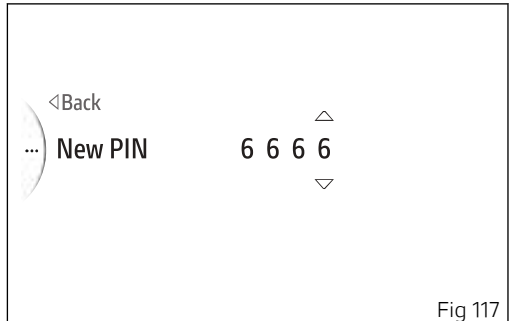

Fig 117
- The 2 arrows above and below the digit indicate that the number can be changed from 0 to 9 using buttons (1) and (2).
- Press ENTER (3) to confirm and move on to the following digit.
- Repeat the procedure until entering all 4 digits (Fig 117).
- Press ENTER (3) to confirm the digit and move on to the following one.